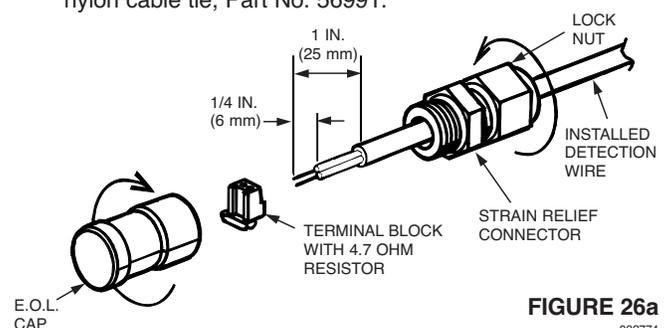

FIGURE 26a
1. Install an end of line resistor assembly, Part No. 426520, to the far end of the detection wire. To properly attach the E.O.L. Resistor assembly, complete the following steps (see Figure 26a):